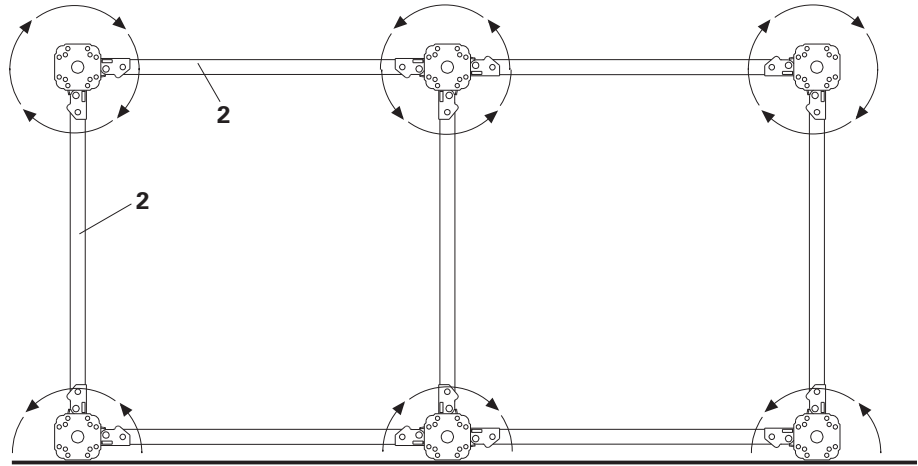

Fig. 32
- The Frame MRK (2) must be consistently installed in a "windmill" design. (Fig. 32)